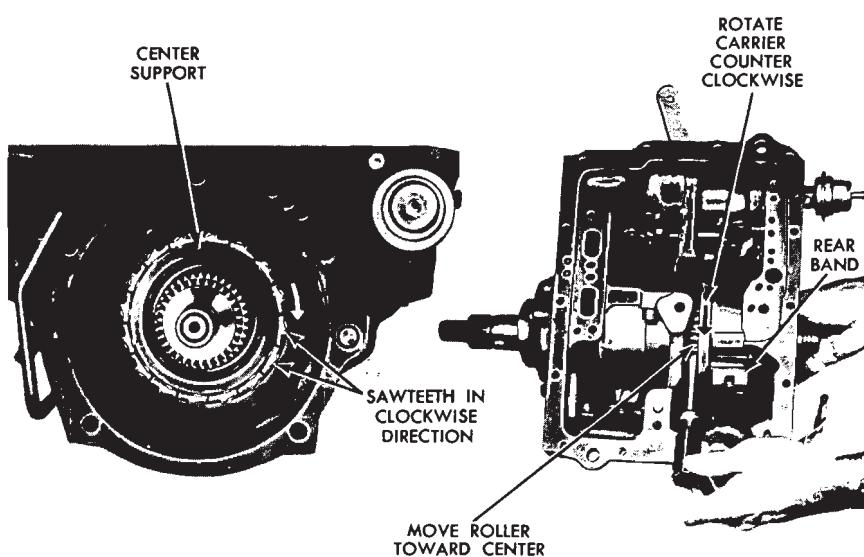

FIG. 57—Planetary Clutch Installation in Carrier—Center Support Not Chamfered
4. Install the planetary clutch on the center support with the saw teeth of the clutch cage pointing in the clockwise direction as viewed from the rear (Fig. 57). Make sure that all rollers are in the cage.
8. Some rollers may become cocked preventing their entry into the outer race. These rollers must be positioned individually with a small screwdriver by pushing the rear of the rollers toward the transmission and into the cam race (Fig. 57). Keep pressure applied to the carrier at all times.